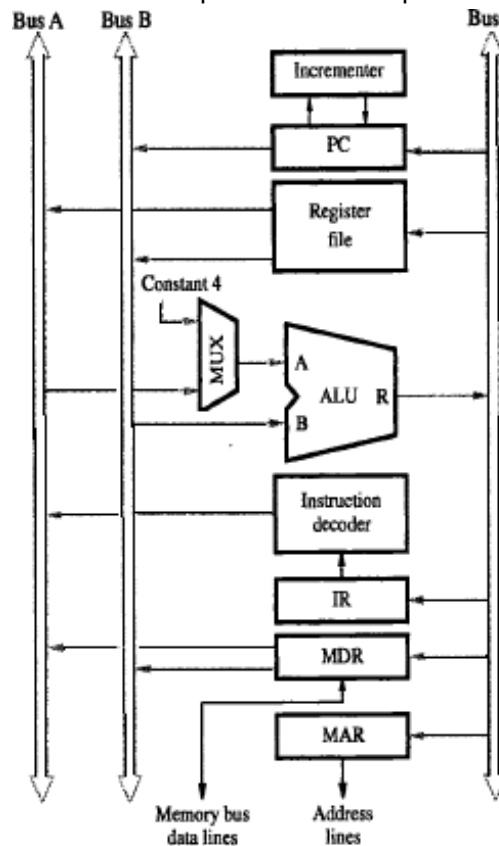

Figure 7.8 Three-bus organization of the datapath.
- As shown in fig 7.8, three buses can be used to connect registers and the ALU of the processor.